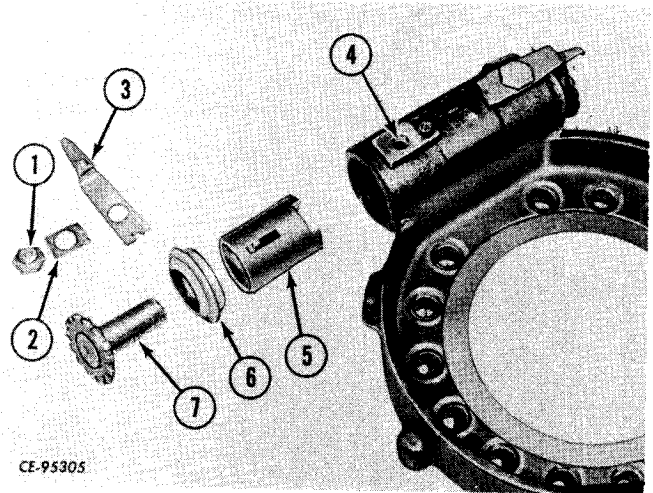

Figure 13-94
Insert the plunger (5, Fig. 13-94) into the seal (6) until the inner lip of the seal enters the